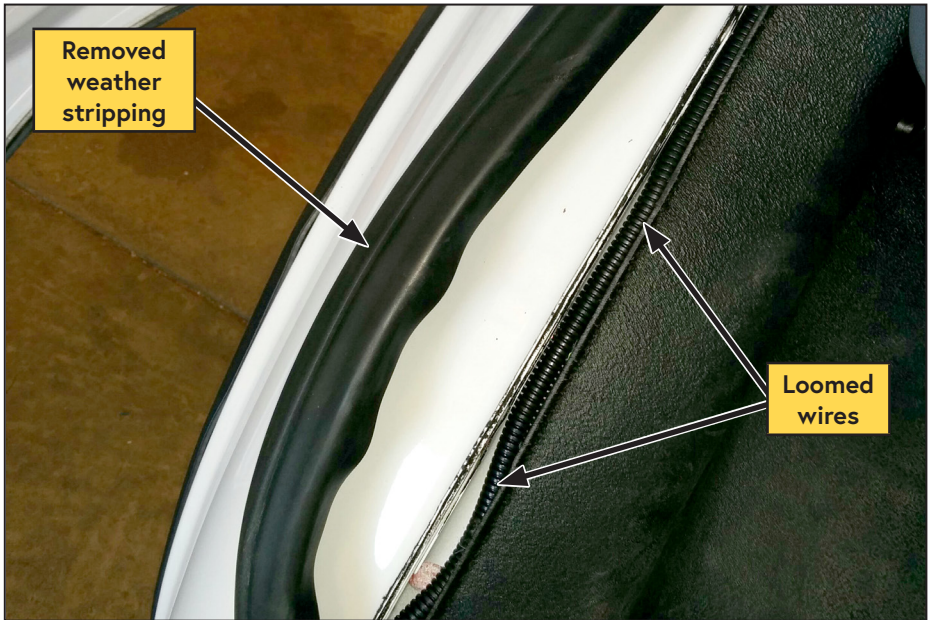

Figure 62 — Route wires
- Remove the driver side door weather stripping from the channel, and route the loomed wires between the channel and the driver side floor (Figure 62).